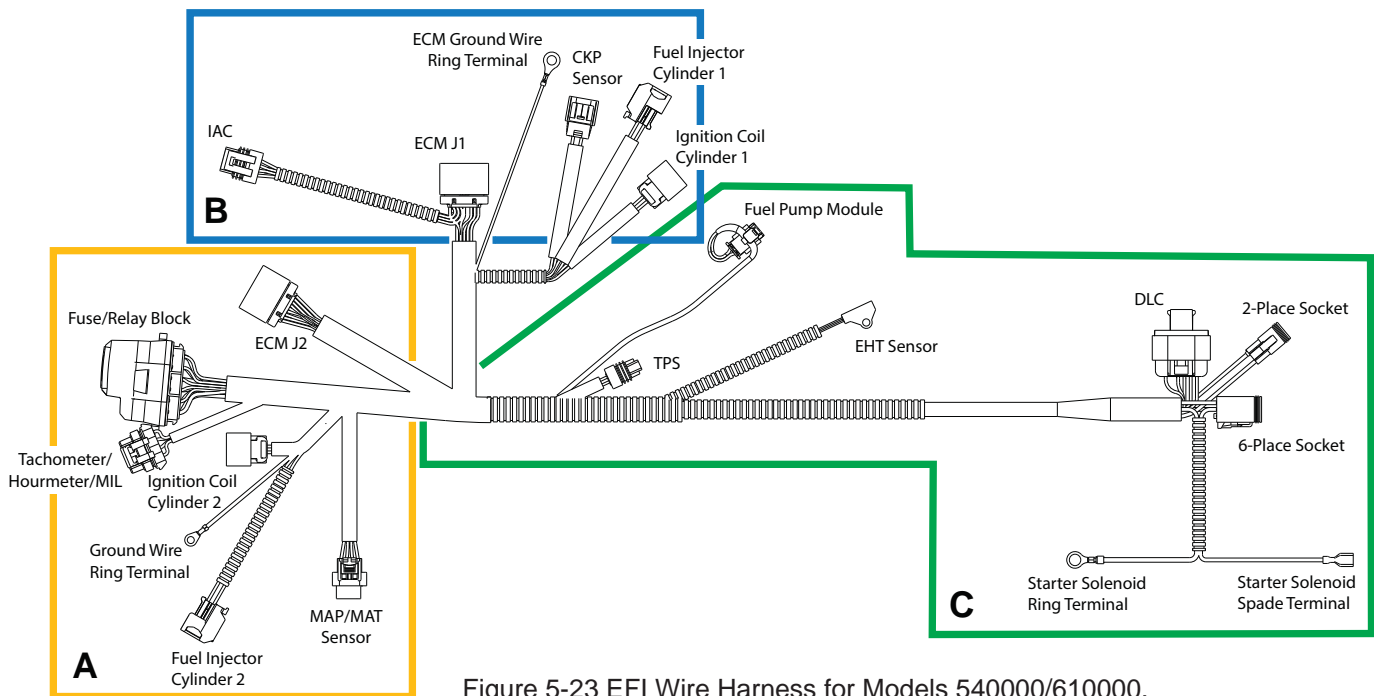

Figure 5-23 EFI Wire Harness for Models 540000/610000.
3. See A of Figure 5-23. On cylinder 2 side of engine, proceed as follows:
4. See B of Figure 5-23. On cylinder 1 side of engine, proceed as follows:
5. See C of Figure 5-23. Proceed as follows:
7. See C of Figure 5-23. Feed wire harness conduit and connectors up through air block mounting plate opening.
1. Position **new** EFI wire harness at top of intake manifold separating conduit and connectors into three groups as shown in Figure 5-23.
2. See C of Figure 5-23. Feed wire harness connectors and conduit down through air block mounting plate opening to area below intake manifold.
3. See B of Figure 5-23. On cylinder 1 side of engine, proceed as follows:
4. See A of Figure 5-23. On cylinder 2 side of engine, proceed as follows: